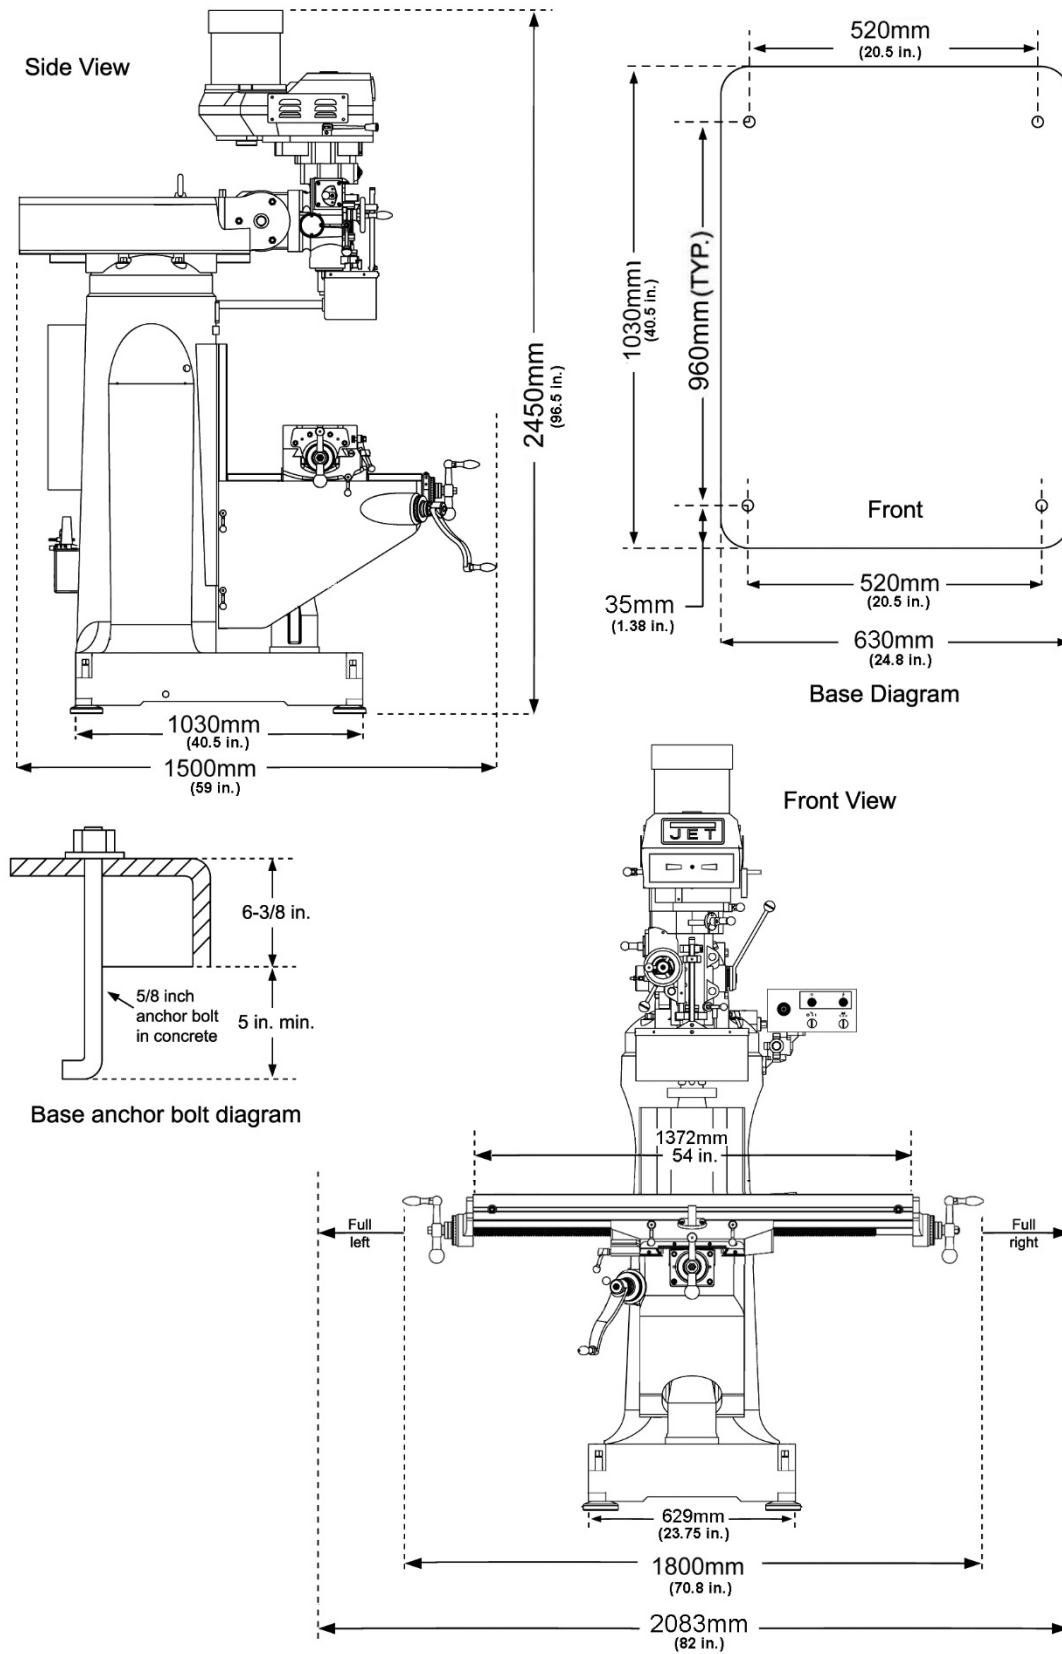

Figure 4-1: Installation Diagram
8. Put machine base over hold-down system where machine will be spotted. Anchor bolts (not provided) of sufficient size and length must be fastened to the floor according to footprint of mill. See Figure 4-1.
Note: Figure 4-1 shows maximum dimensions of machines with table, ram, etc., fully extended in all possible directions. When spotting machine, be certain to leave room not only for the machine itself, but also for operator clearance and clearance for workers servicing the machine, and any unusual sizes of workpieces that might extend off the machine's table.